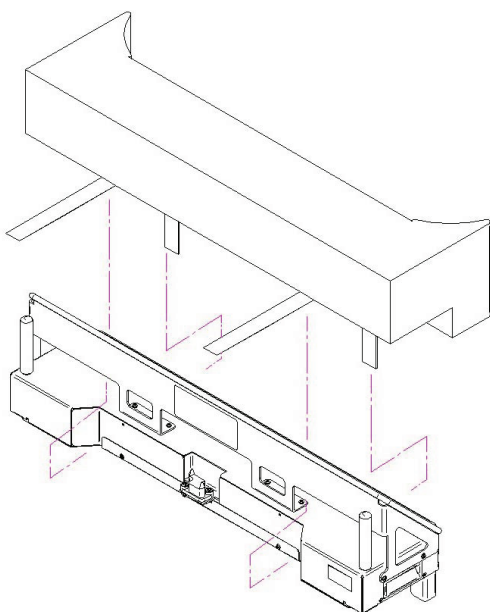

Figure 117: Strapping the mattress to the optional bed extender
1. Strap the appropriate mattress extender cushion onto the optional bed extender (Figure 117 on page 105).